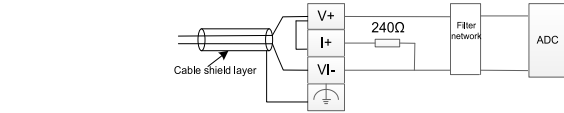

Figure 4.2 Wiring for current input
- For current input, connect V+ to I+ in short circuit mode, as shown in figure 4.2, and ensure the current input is within the range.